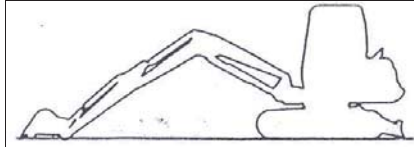

Fig. 38: Parking the excavator
- Position the machine as shown in Fig. 38